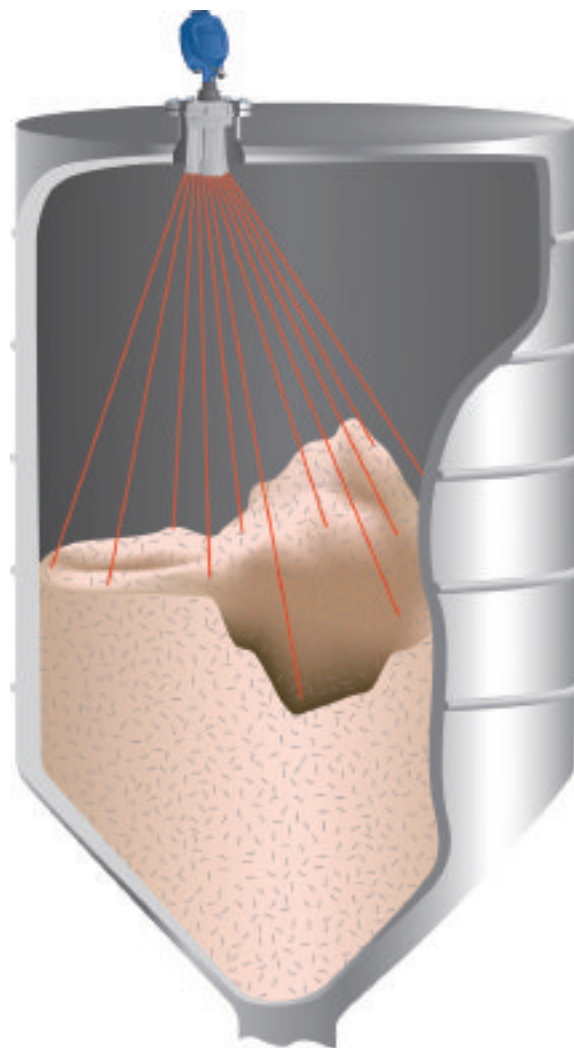

Figure 2: Guided-wave radar and acoustic instruments can cover a relatively large area, but the precision of a measurement depends on distance.
reflections (see Figure 2). The accuracy of the measurement depends on the strength and repeatability of the return signal. The characteristics able to create a strong signal make for major differences between radar and acoustic methods. Radar instruments depend primarily on the dielectric constant (DC) of the material, while acoustic instruments depend on bulk density.